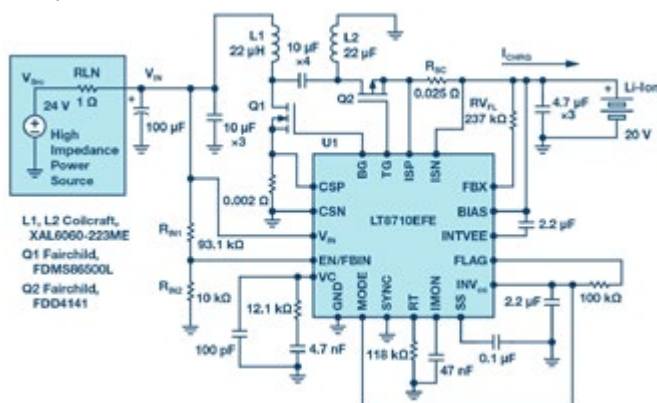

Figure 1: Electrical schematic of a LT8710 lithium-ion battery charger in high impedance input lines.
Figure 1 shows a charger solution for a 20 V lithium-ion battery commonly used in portable power tools. The voltage source, VSRC, is 24 V via a high impedance power line, resistor RLN, resulting in the voltage VIN at the charger input terminals. The voltage source could be considered as a popular 12 V solar panel with 22 V to 24 V open-circuit and 18 V to 19 V optimum operating voltage. The charger is based on a synchronous, noncoupled SEPIC topology and controlled by the LT8710. The power train consists of discrete inductors L1, L2, transistors Q1, Q2, decoupling capacitors between the inductors, and input/output filters. Resistor RSC sets 2 A of charge current, ICHRG; resistor RV(FL) sets the float voltage of 21 V. The resistor divider RIN1/RIN2 sets input voltage regulation level, which is 18.6 V in this example.